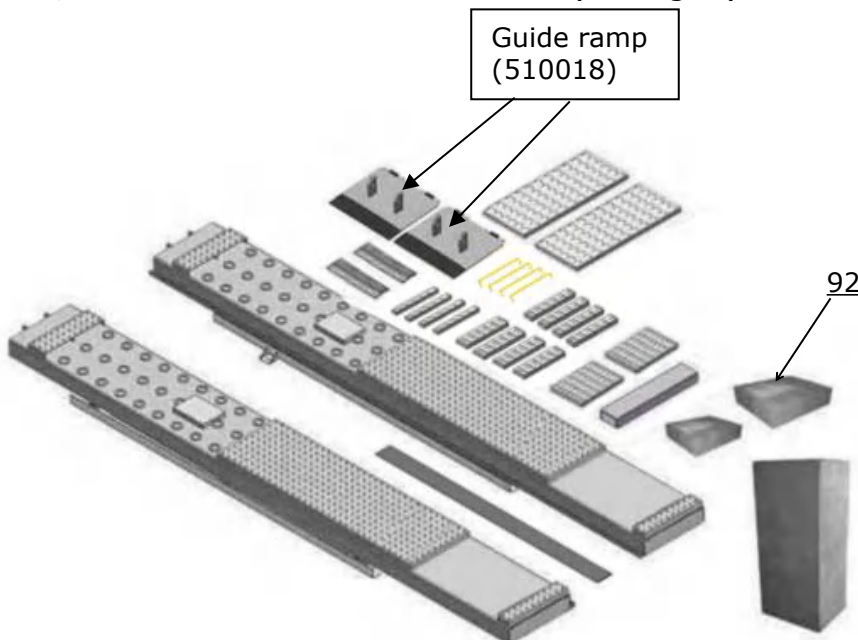

Fig. 9
2.2, Parts for flush mount installation (see Fig. 9)